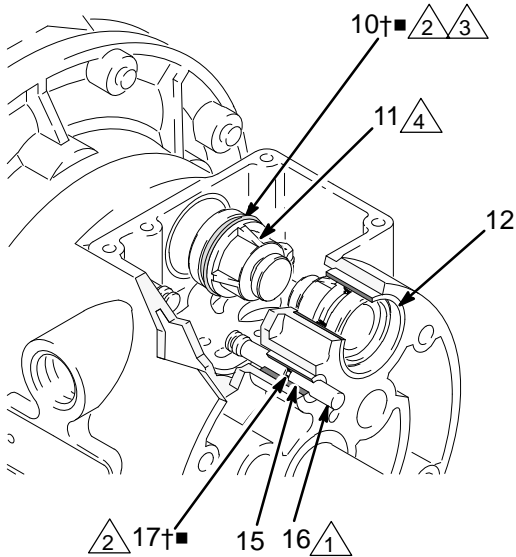

Fig. 9 04159B
4. Pull the two actuator pistons (11) out of the bearings (12). Remove the u-cup packings (10) from the pistons. Pull the pilot pins (16) out of the bearings (15). Remove the o-rings (17†■) from the pilot pins. See Fig. 9.
6. Inspect the bearings (12, 15) in place. See Fig. 9. The bearings are tapered and, if damaged, must be removed from the outside. This requires disassembly of the fluid section. See page 20.
4. Install an o-ring (17†■) on each pilot pin (16). Grease the pins and o-rings. Insert the pins into the bearings (15), **narrow** end first. See Fig. 9.
5. Install a u-cup packing (10†■) on each actuator piston (11), so the lips of the packings face the **narrow** end of the pistons. See Fig. 9.
6. Lubricate the u-cup packings (10†■) and actuator pistons (11). Insert the actuator pistons in the bearings (12), **wide** end first. Leave the narrow end of the pistons exposed. See Fig. 9.